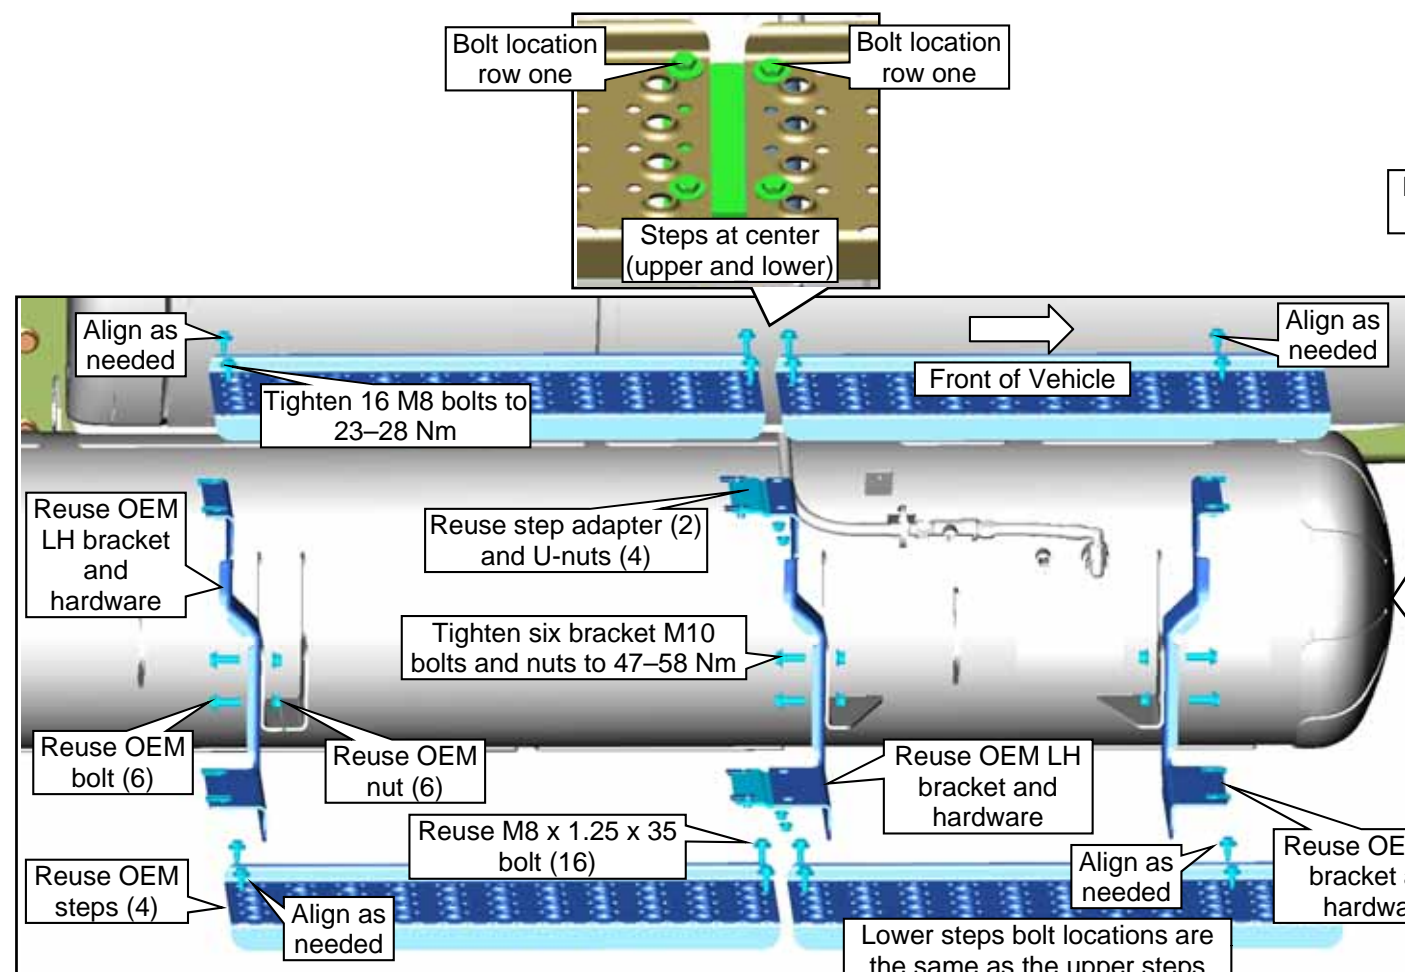

Figure 37.2 — Super Cab Long Tank (Build from 60 Gallon OEM Tank) Right Hand
1. Attach the two new left and one new right step brackets to the step weldments on the left hand tank (front, middle and rear attachments). Use six new M10 x 1.5 x 30 bolts and nuts for the three new step brackets. **Figure 37.1.** The right side tank steps, brackets, U-nuts, bolts and nuts are all reused from the OEM. Tighten all fasteners to specification. **Figure 37.2.**